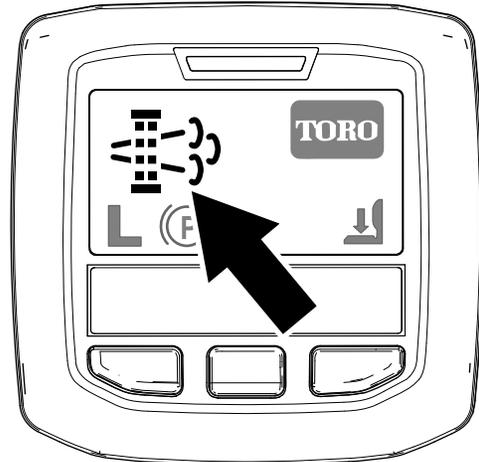

Figure 40
- The parked-regeneration requested icon displays in the InfoCenter (Figure 40).